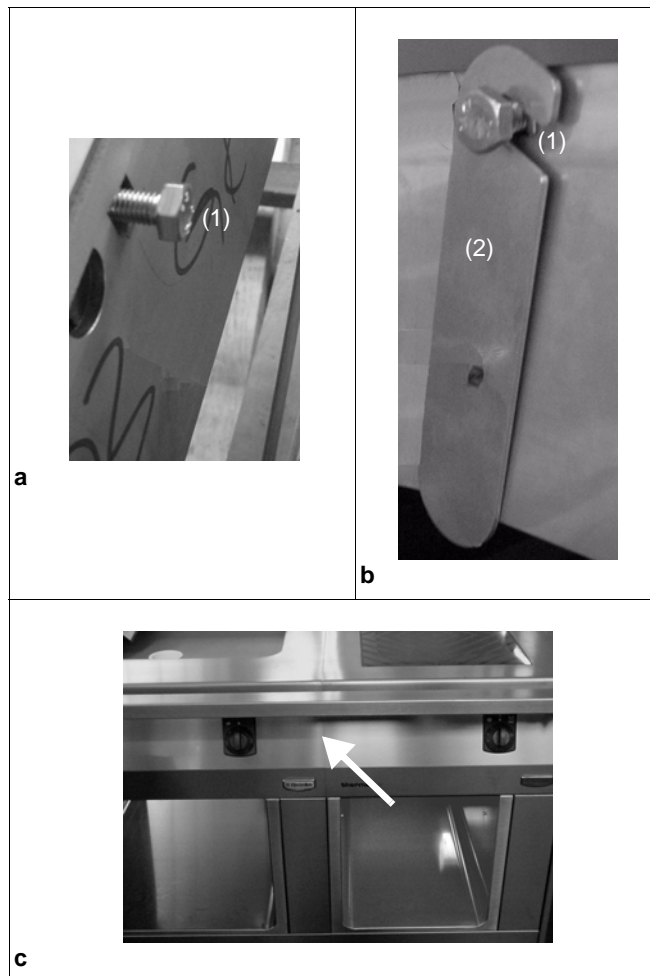
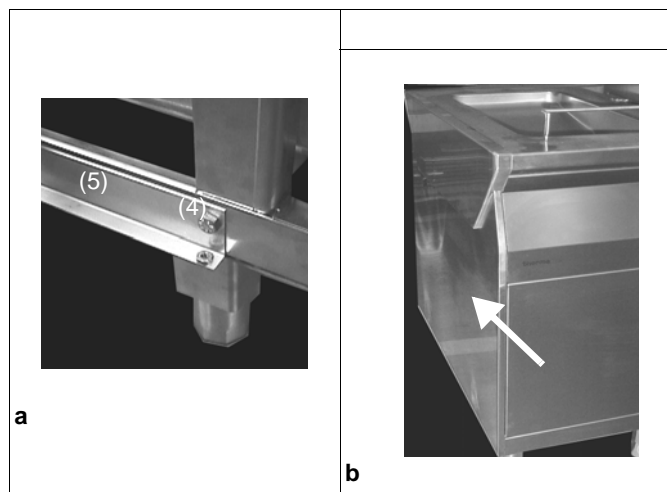

Fig.1 Lateral connection
Fig.2 Assemblage of sidewall
The assembly kit contains two of each of the following: caged nuts (1 / Fig.1) pre-assembled on the right-hand side of the appliance, hexagonal screws M8x25 (1 / Fig.1) and mounting links (2 / Fig.1).
- ⇒ Keeping the screw (1 / Fig.1) loose, turn it until it is approximately 5 mm deep in the caged nut.
- ⇒ Fit the mounting link (2 / Fig.1) into the inside of the second appliance's left connecting plate.
The assembly kit contains two of each of the following: hexagonal screws M8x25 (1 / Fig.1), bolts with retaining rings (2 / Fig.1), mounting links (3 / Fig.1), hexagonal screws M8x16 with serrated washers and hexagonal nuts M8, hexagonal screws M5 with serrated washers (4 / Fig.1) and a fastening angle (5 / Fig.2).
- ⇒ (4 / Fig.2).